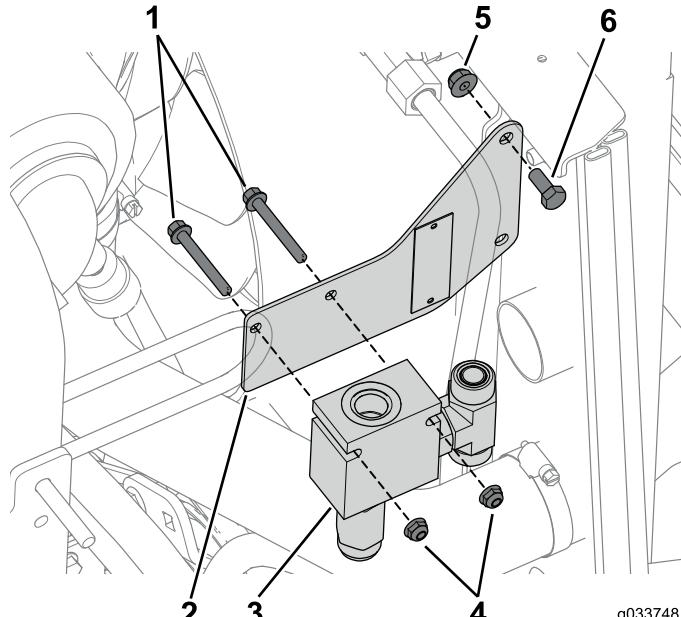

Figure 10
4. Install the left manifold-assembly bracket using 1 bolt (5/16 x 3/4 inch) and 1 flange nut (5/16 inch) on the top hole of the bracket (Figure 10).
6. Secure the left manifold assembly to the bracket using 2 bolts (1/4 x 2 inches) and 2 nuts (Figure 10).